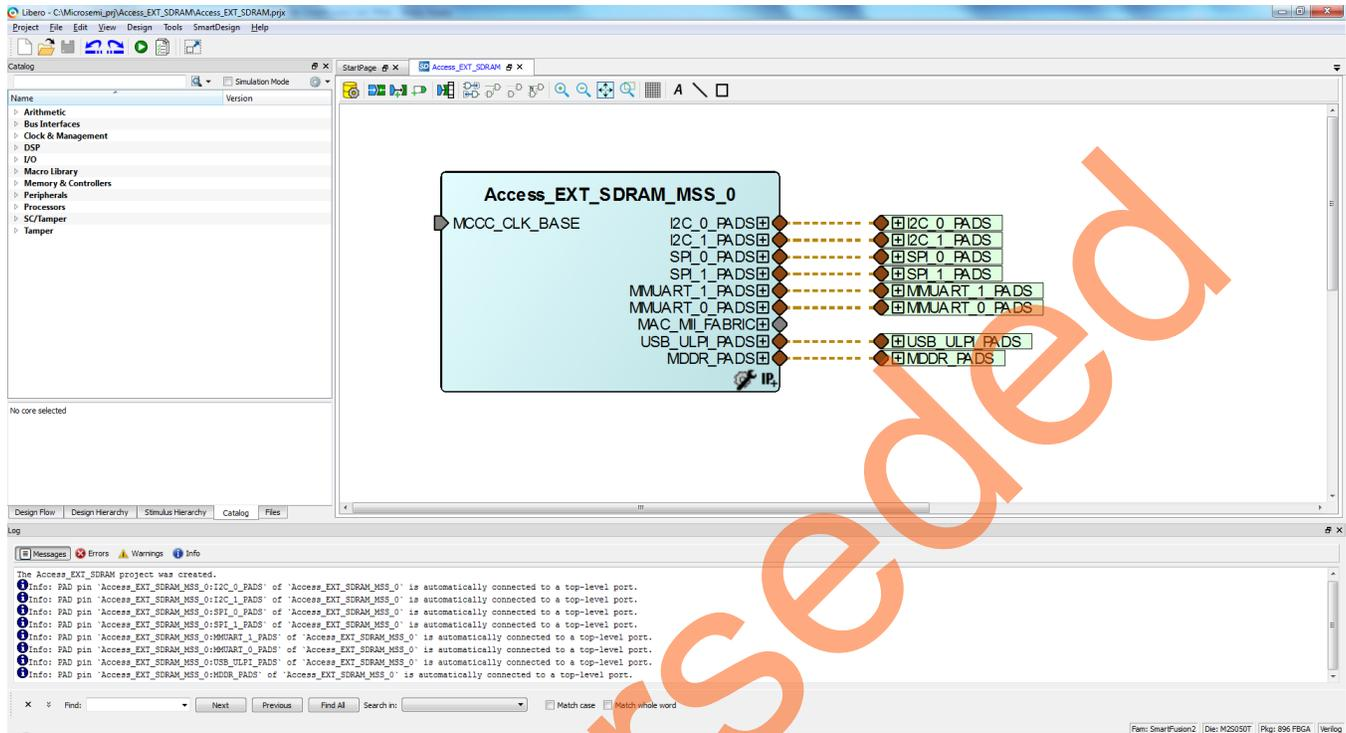

Figure 4. Libero Window on Completion of New Project Creation Wizard
1. The project is created and the Libero SoC window is displayed as shown in Figure 4. The SmartDesign window opens and a project **Access\_EXR\_SDRAM** is created with the instantiation of the MSS component.